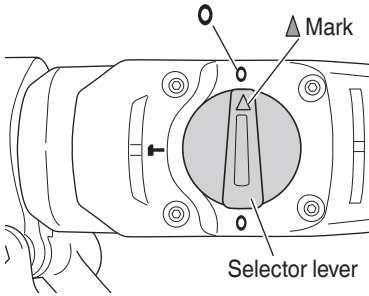

Fig. 3
- (1) The blade angle can be freely changed if the ▲ of the selector lever is aligned with the ◎ of the crank cover, as illustrated in Fig. 3.